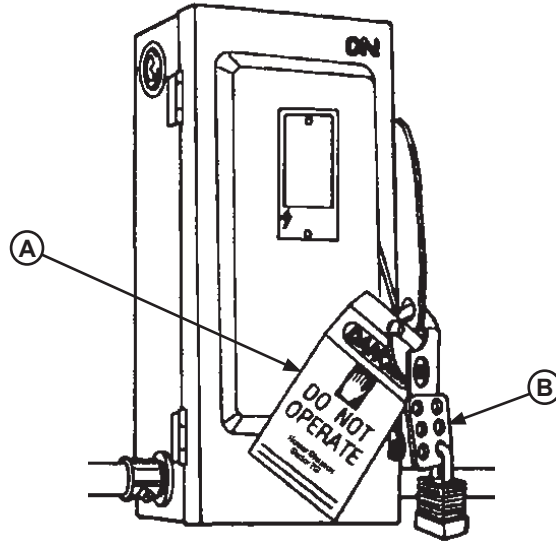

Figure 11
When working with electrical or electronic controls, make sure that the power source has been tagged (A) and locked out (B) according to OSHA regulations* and approved local electrical codes (see Figure 11).